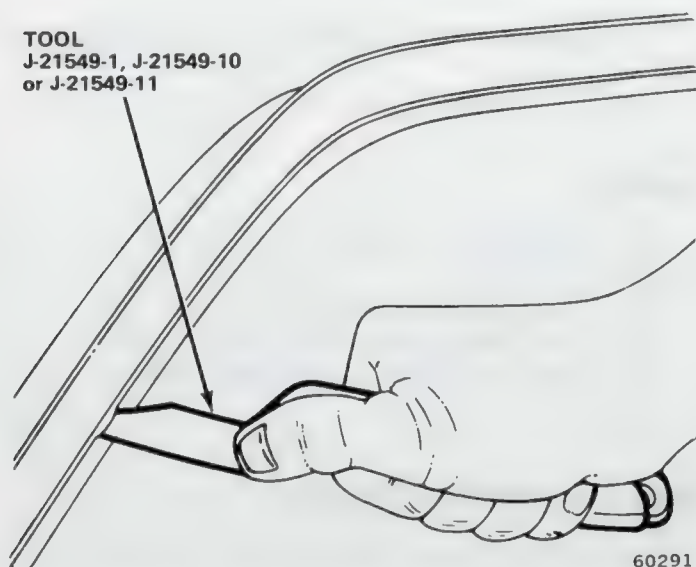

Fig. 3K-1 Reveal Moulding Removal—Typical
- (2) Insert Tool between moulding and glass parallel with glass.
- (3) Pry moulding from clips with a rolling action (fig. 3K-1).